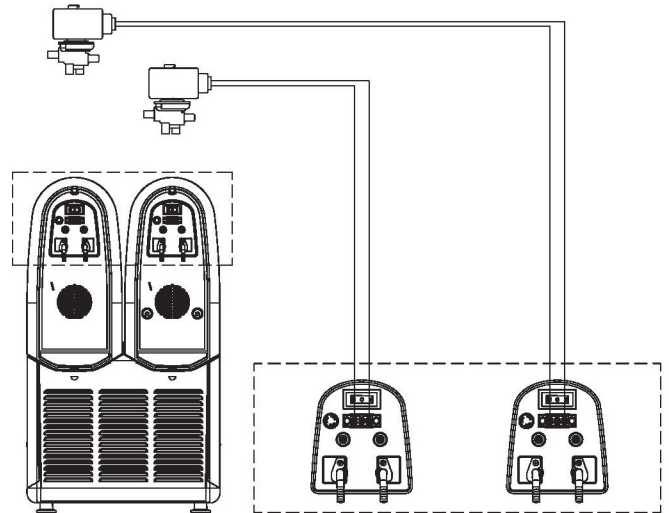

figure 2
valve (see figure 2).
Proper Inlet flow adjustment (E) is factory preset. To change the flow, if needed, use a suitable Allen Key to turn the adjustment screw located on top of each Autofill Inlet as follows:(see figure 2)